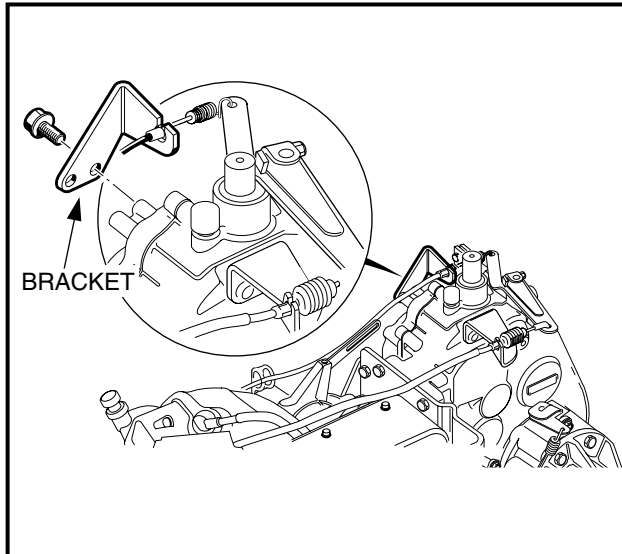

Figure 16-35 Accelerator Cable Bracket
20. Remove screws securing the accelerator cable bracket to transaxle (**Figure 16-35, Page 16-15**). See following **NOTE**.